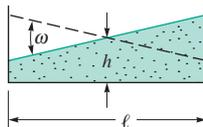

FIGURE P7.5
7.5 Water sloshes back and forth in a tank as shown in Fig. P7.5. The frequency of sloshing,  $\omega$ , is assumed to be a function of the acceleration of gravity,  $g$ , the average depth of the water,  $h$ , and the length of the tank,  $\ell$ . Develop a suitable set of dimensionless parameters for this problem using  $g$  and  $\ell$  as repeating variables.